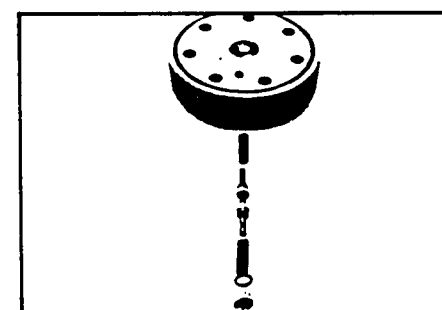

Figure 61
20. If shuttle valve components items #21, #22, #23, #24 were removed from the end cover (2) turn a plug (21) with a new o-ring (22), loosely into one end of the valve cavity in the end cover. Insert a spring (23) the valve (24) and the second spring (23) into the other end of the valve cavity. Turn the second plug (21) with a new o-ring (22) loosely into the end cover valve cavity. 3/16 inch Allen wrench required. SEE FIGURE 61.